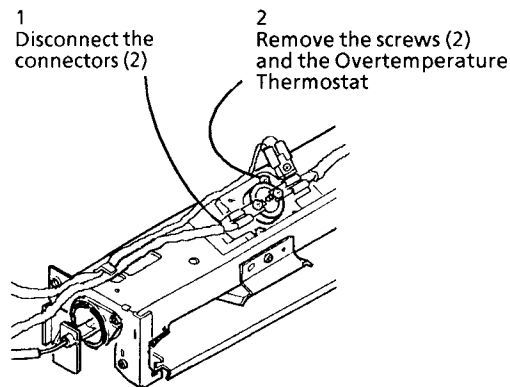

Figure 1. Removing the Overtemperature
4. Remove the Overtemperature Thermostat (Figure 1).